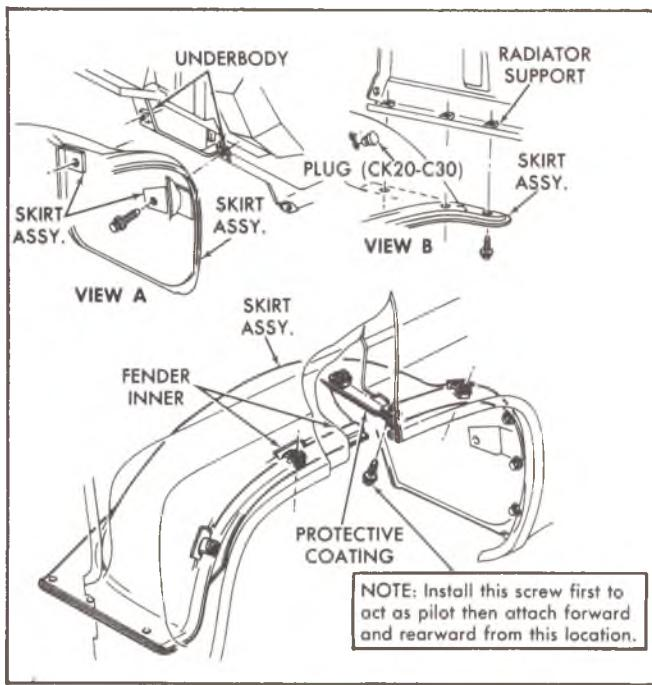

Fig. 9—Fender Skirt Assembly—CK Series
9. Remove bolts at each fender skirt to cab underbody (fig. 9).
11. Remove screws securing fender skirts to radiator support bottom. (Fig. 9).
FRONT FENDER AND SKIRT (FIGS. 9 AND 10)